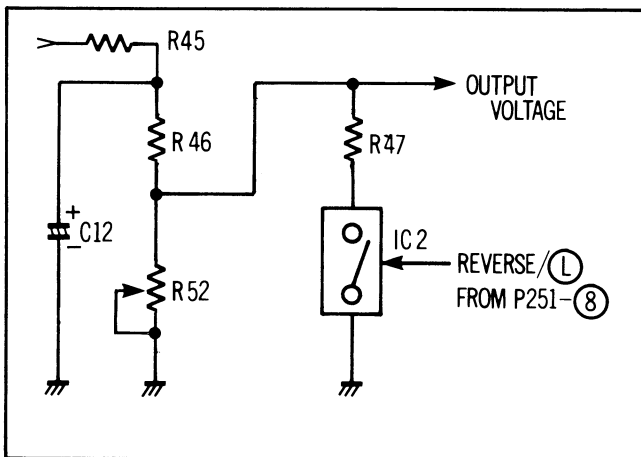

Figure 2-200
In forward mode, 60 ~ 70 grams of tension is necessary. R52 serves as an adjustment in the voltage divider R46, R47, R52 (See Figure 2-200).
In the Reverse mode, the tape is not pulled past the heads by the capstan, but by the takeup reel. The capstan just regulates tape speed, so it is necessary to give the motor more DC voltage to increase the torque. The DC voltage is increased by removing R47, since the Switch IC2-(6), (8), (9) is open during the reverse mode (See Figure 2-200).